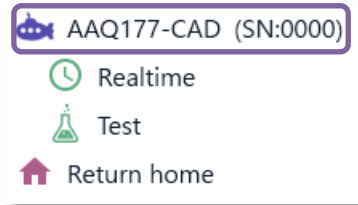

Figure 6.7 Displaying instrument information
- (1) Connect the instrument to the PC and launch the software.
- (2) Click on the instrument model at the top under “function menu”. (Figure 6.7)